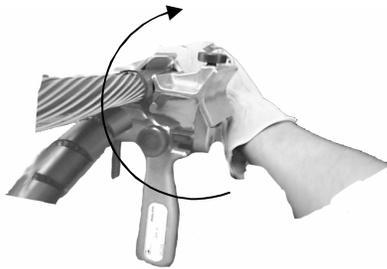

Fig. 10
Step 4. A square cut on the jacket or insulation can be achieved by stopping the tool’s forward motion with a gloved hand (Fig. 10) or with a Ripley Utility Tool QC-1 Clamp (Fig. 11). If an exact stripping length is required, place the QC-1 Clamp 2” (50.8mm) further down the cable than the desired length when using the CB 50K End Strip Blade and 2 3/8” when using the CB 236 Mid Span Blade.